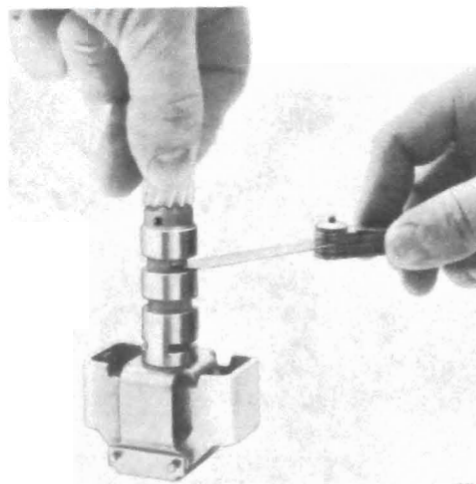

Figure 76-600A
10. Check valve opening at entry (.020 inch minimum) with a feeler gage, holding governor as shown in figure 76-600A, with governor weights extended completely outward. For exhaust (.020" minimum) governor weights must be completely inward.